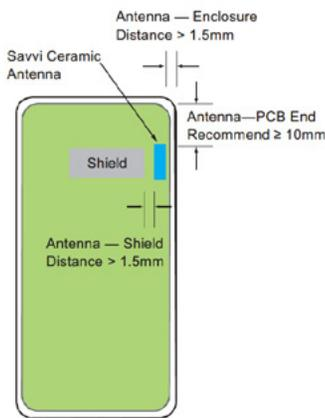

Figure 6
In order to create an optimized layout for the antenna, one must first understand the Savvi ceramic antenna's unique characteristics, which enable it to offer superior performance. The antenna's performance behavior is controlled by many variables in the surrounding environment. KYOCERA AVX's technical team has determined that several rules are important to take into account when designing a product using this antenna, see Figure 6 below:
4. The distance from the antenna to relatively large perturbations, such as a nearby shield or large components, is referred to as "**Antenna - Shield**" distance. This distance is dependent on the height of surrounding components, but should not be less than 1.5mm. See Figure 6.